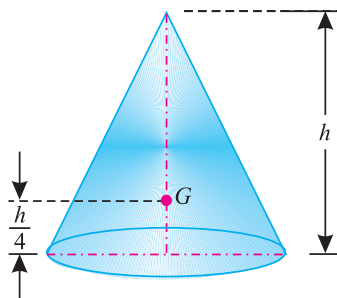

Fig. 6.7. Right circular solid cone
10. The centre of gravity of right circular solid cone is at a distance of  $\frac{h}{4}$  from its base, measured along the vertical axis as shown in Fig. 6.7.